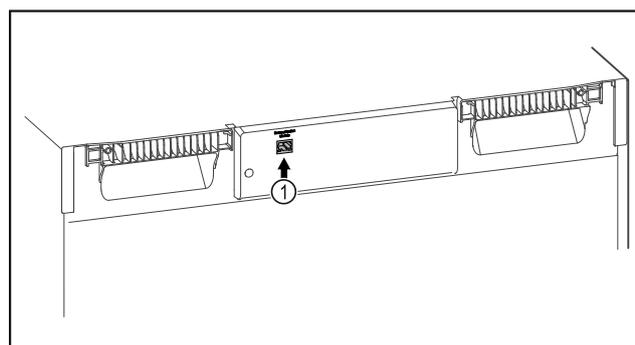

Fig. 111
- SmartModule Fig. 111 (1) is in use.